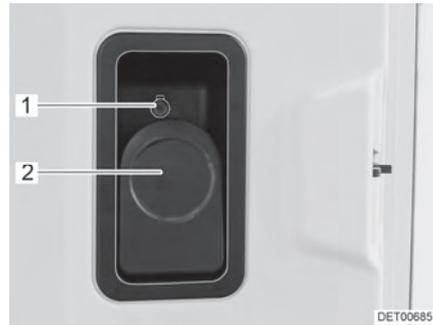

Fig. 32 Door lock (conversion door, inside)
- Opening:* ■ Pull lever (Fig. 32,2).
- Locking:* ■ Push the safety knob (Fig. 32,1) in.